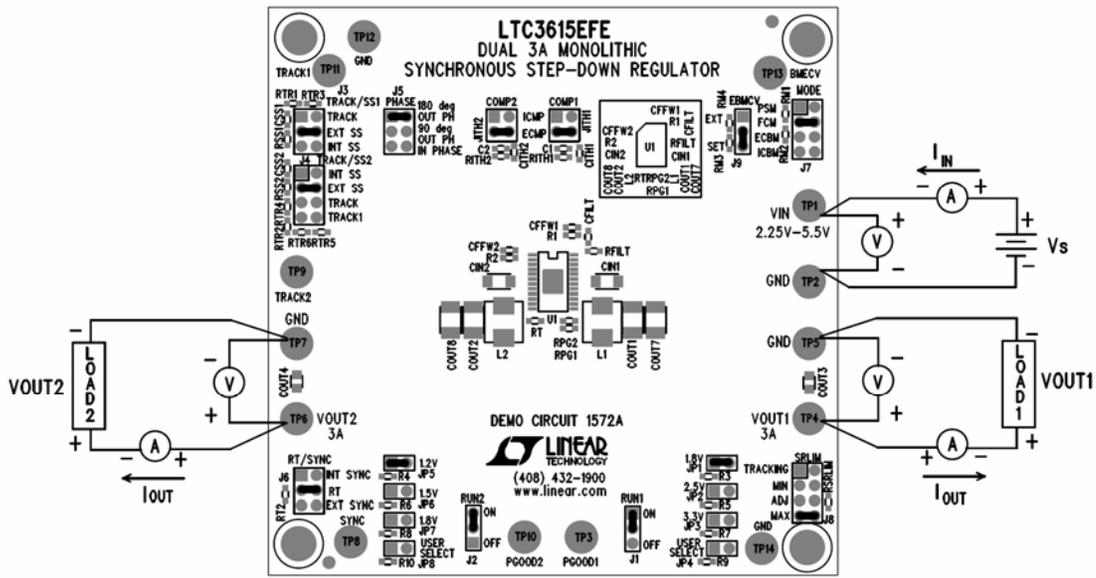

Figure 1. Proper Measurement Equipment Setup
The DC1572 is easy to set up to evaluate the performance of the LTC3615. For a proper measurement equipment configuration, set up the circuit according to the diagram in Fig. 1.
1. Connect the input power supply to the V_{in} and GND terminals. Connect the loads between the V_{out} and GND terminals. Refer to figure 1 for the proper measurement equipment setup.